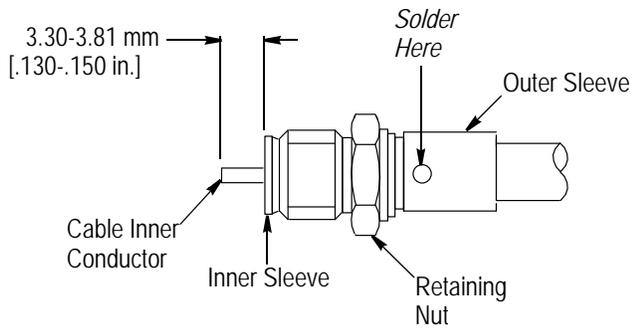

Figure 4
3.2. Soldering Cable to Inner Sleeve (Figure 4)
- Changed “clamp nut” to “retaining nut” in Figure 4